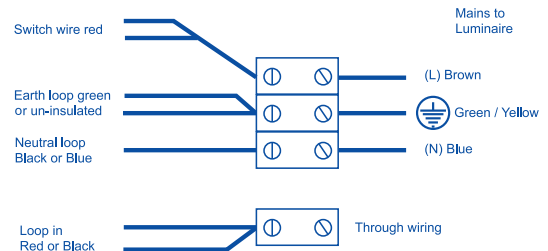

Fig. 3
3. The "looping-in" of the fixed wiring supply should be maintained. See Fig. 3.